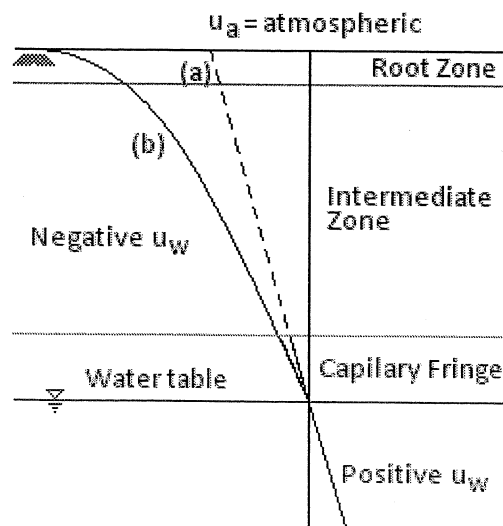

Fig. 7D
- D. Fig. 7D shows pore water pressure profiles (a) equilibrium with water table and (b) during excessive evaporation /evapo-transpiration. Explain how curve (b) affects effective stress. (5 points)